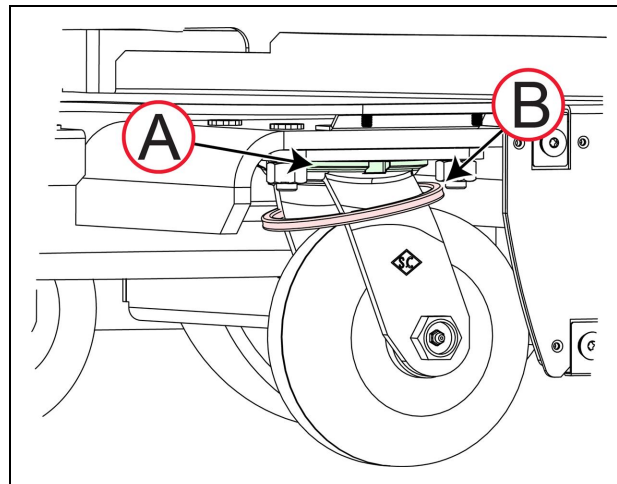

Figure 8-5 Caster Yoke Bearing and O-Ring
5. Use disposable wipes to remove old grease and dirt from the yoke bearing [(A) in Figure 8-5].